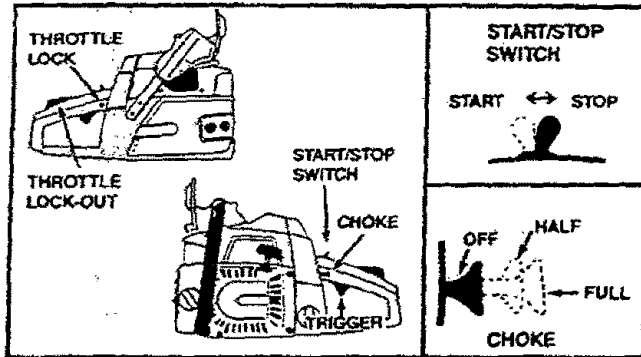

Figure 14
Understanding the control devices on your saw is an important part of learning how to properly and safely operate the unit. Figure 14.
- h. Stop engine by moving the ignition switch to the "STOP" position (Figure 14).
- 1.) Pull choke to full choke position. Figure 14.
- 3.) Push choke until half position is felt. Figure 14.
- 5.) After 5 second warm up, push choke to the off position. Figure 14.
- 1.) Leave choke at the off position. Figure 14.
- 3.) Push choke to the off position. Figure 14.